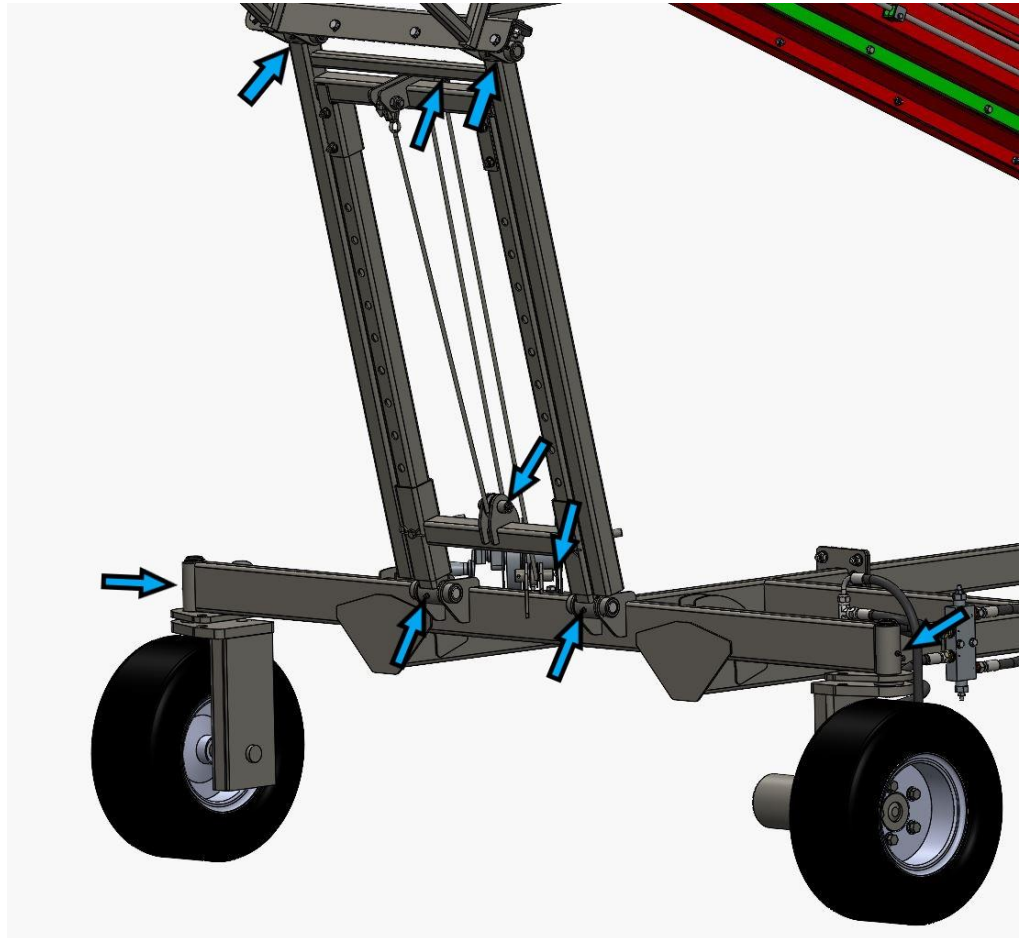

Figure 11.
3. Lifting device nipples (9 pcs, Figure 11).